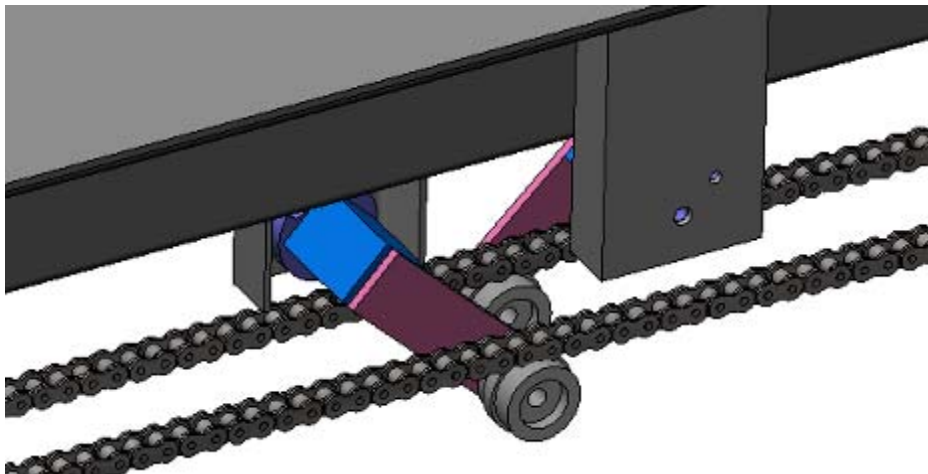

Figure 20B Tensioning Arms – for Mid-Span Support
- (Applicable Only to Carriages longer than 216”)** Route the chains over the mid-span tensioning arms for added chain support and to maximize contact of chain with sprockets (see **Figure 20B**). Tighten tensioning arms as needed to remove slack.